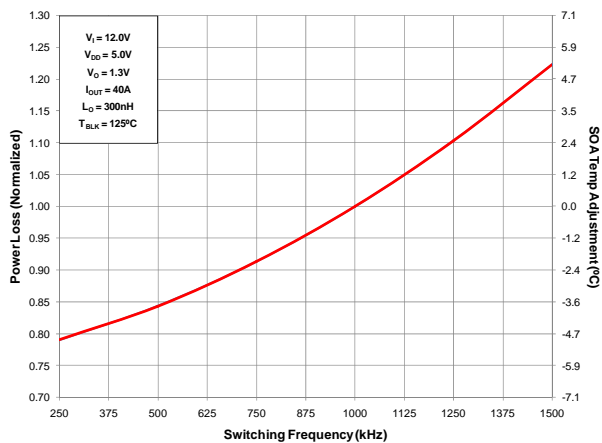

Figure 7 Normalized Power Loss vs. Switching Frequency
| (Figure 7) | Normalized power loss for switch frequency \approx 0.91 |
- (Figure 7) SOA temperature adjustment for switch frequency $\approx -1.9^{\circ}\text{C}$